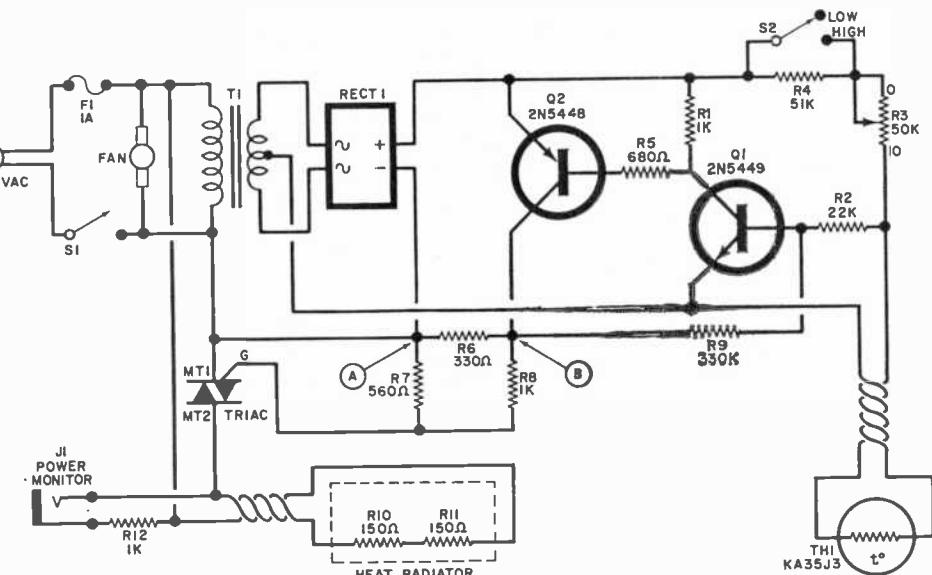

Fig. 1. Thermistor TH1 senses the heat radiated by power resistors R10 and R11.
When the electronic assembly is complete, temporarily disconnect the triac and connect a 10-volt dc voltmeter between points A and B of Fig. 1. With *R3* set to a low resistance, no dc voltage should be indicated between the test points. As the resistance of *R3* is increased, a 10-volt signal will appear. Make a check for both positions of range switch *S2* and note that the dc voltage appears at a much higher resistance on *R3* when *S2* is in the low range. If everything is OK, disconnect the unit from the power line and replace the triac.
**Test and Calibration.** Recheck the mechanical assembly of all cooler-mounted components, making sure that all elements are firmly secured and that all glued joints are hard and dry. Recheck all the wiring in accordance with Fig. 1. Keep in mind that power-line ac is present on some leads and be very careful to avoid the possibility of an electrical shock.
The environmental chamber creates hot or cold temperatures by balancing a heater against the cooling effect of dry ice. A fan continuously circulates the air in the chamber, while a thermistor-controlled regulator circuit (Fig. 1) adjusts the temperature to the desired value, which is set on a dial. Transistors  $Q1$  and  $Q2$  form a complementary Schmitt trigger which normally has about 1.5 volts of lag (hysteresis). Since the trigger is powered by full-wave rectified dc with no filtering, the circuit voltage sweeps from zero through about 17 volts at a rate of 120 times per second. This varying power reduces the hysteresis to a few millivolts and thus provides control to  $\pm 1$  degree.